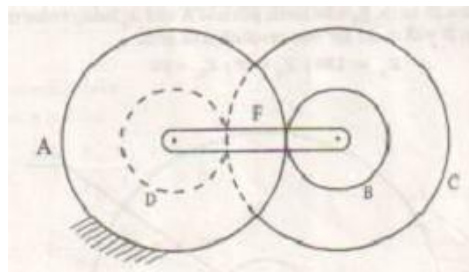

Fig. 4.5
5. An Epicyclic gear train is constructed as shown in fig 4.5. A fixed annular wheel A & a smaller concentric wheel B are connected by a compound wheel A_1-B_1 . A_1 gearing with A. B_1 gearing with B. The compound wheel revolves on a stud which is carried around an arm which revolves about the axis A & B. A has 130 teeth, $B_1=80$ teeth, pitch of A & A_1 being twice that of pitch of B & B_1 . How many revolutions B will make for one revolution of the arm. (solve it by algebraic method)